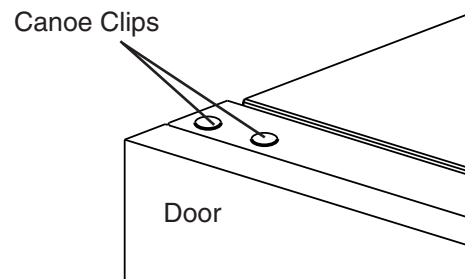

Fig. 22
10) Insert the 2 canoe clips included in the accessory bag into the holes on top of the door. See Fig. 22.